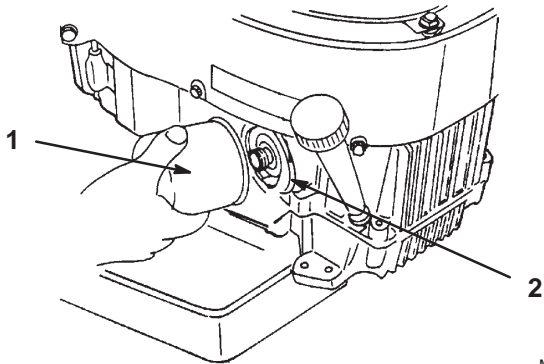

Figure 36
2. Remove the old filter (Fig. 36).
3. Apply a thin coat of new oil to the rubber gasket on the replacement filter (Fig. 36).
4. Install the replacement oil filter to the adapter. Turn the oil filter clockwise until the rubber gasket contacts the filter adapter, then tighten the filter an additional 3/4 turn (Fig. 36).